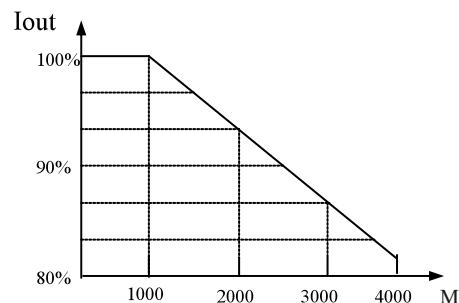

Fig. 5-1 Diagram for Inverter Derating Curve
- Due to thin air in a place where the altitude is higher than 1,000m, heat dissipation of the inverter will be less effective. Hence derating should be performed before use. In general, when the height rises by 1,000m, the rated voltage of the inverter shall be reduced by 10%. Refer to Fig. 5-1 for details of the derating curve.